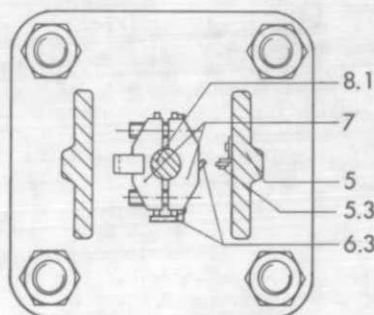

Fig. 4 (top view)
Remove clamps of coupling (7) and nut (8.2) from the actuator (8). Remove coupling nut (6.1) from valve and replace by coupling nut from the extra package. Place actuator (8) on bonnet (5), attach and tighten nut (8.2). Attach the two clamps of the coupling (7) to actuator stem (8.1) and nut (6.1) as shown in Fig. 4. Place pointer (6.3) from the extra package on the right-hand clamps so that its tip points to the travel indicator (5.3) and screw together using the two hex head bolts and nuts that are part of the coupling.
Remove clamps of coupling (7) and nut (8.2) from the actuator (8). Remove coupling nut (6.1) from valve and replace by coupling nut from the extra package. Apply a signal pressure to the diaphragm of actuator (8) (air connection at lower actuator case). Reduce signal pressure until actuator stem (8.1) contacts nut (6.2). Attach the two clamps of the coupling (7) to the actuator stem (8.1) and nut (6.1) as shown in Fig. 4. Place pointer (6.3) from the extra package on the right-hand clamp so that its tip points to the travel indicator (5.3) and screw together using the two hex head bolts and nuts that are part of the coupling.